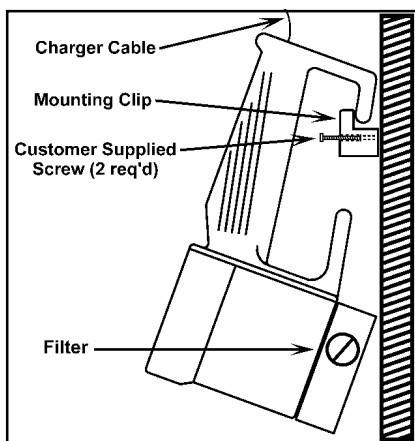

Figure 4: Wall mounting
A stationary mounting clip is provided for conveniently hanging the detector while not in use. See Figure 4.
- Check filter material every six months. Replace if dirty or moist. See Figure 4.